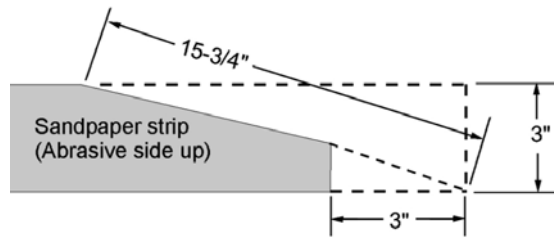

Figure 9
1. Mark and cut a taper at one end of the roll as shown in Figure 9. Because the tapered end should use all of the left (outboard) slot width, its end must be trimmed back three inches as shown.
6. Remove the *abrasive strip* from the drum, and cut a taper as was done with the starting edge (see Figure 9).